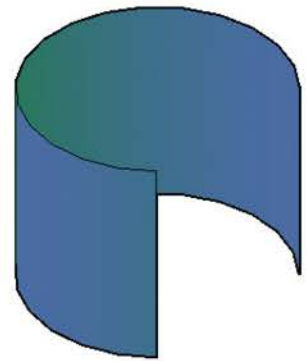

Fig. 11.34 Second example – 3D Surface
SECOND EXAMPLE – 3D SURFACE (FIG. 11.34)
2. Select **SW Isometric**, call the **Extrude** tool and extrude the part circle to a height of 80. Shade in the **Conceptual** visual style (Fig. 11.34).